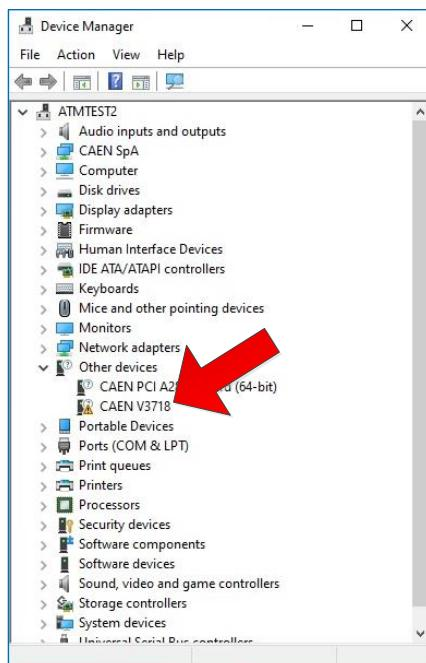

Fig. 11.1: USB Driver Installation: step 1
1. Go to the Device Manager area: find the new hardware listed under Other devices (Fig. 11.1).